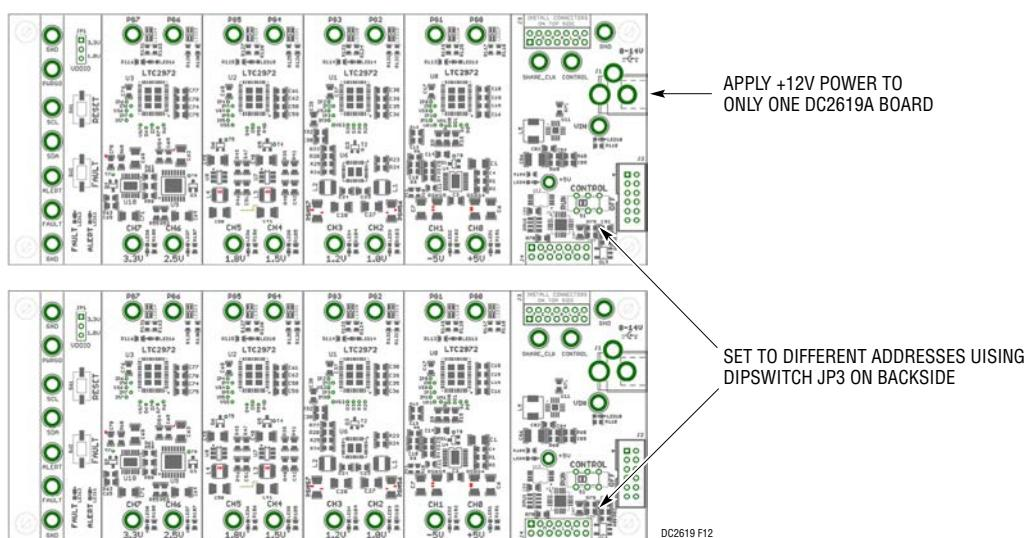

Figure 12. Array of Multiple Board Sets
3. Plug in the +12V V_{IN} power into one of the boards as shown in Figure 12 below. Only one +12V power source is allowed.